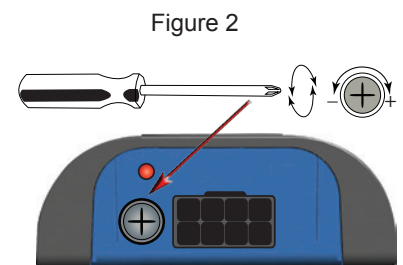

Figure 2
4. Slowly adjust level on LP7-2R until you reach the target voltage of the amplifier. (*figure 2*)
3. Slowly adjust front channel gain of LP7-2R until just a hint of distortion is audible, and then back down gain just under that threshold and the distortion goes away. (*figure 2*)